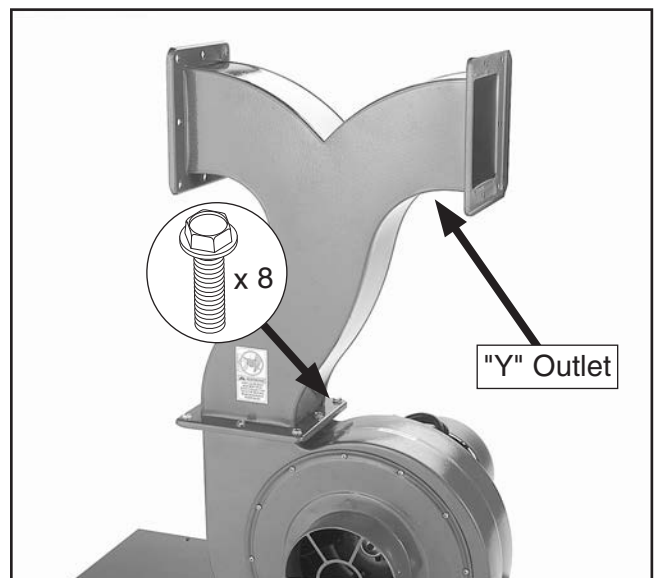

Figure 14. Outlet connector installed.
5. Secure the metal "Y" outlet to the impeller outlet with (8) $\frac{5}{16}$ "-18 x $\frac{1}{2}$ " flange bolts, as shown in **Figure 14**.